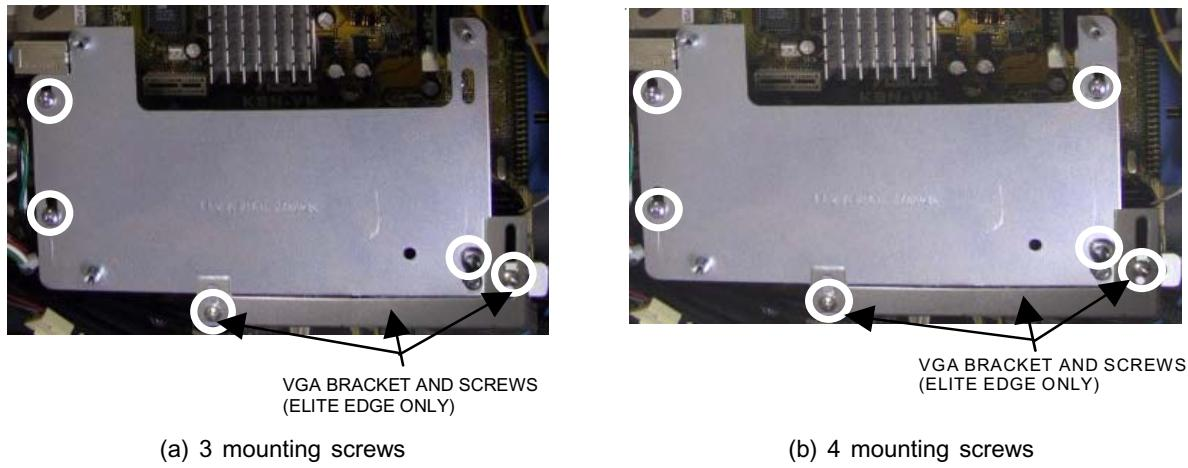

FIGURE 6 -ASUS I/O MOUNTING PLATE
5. Remove the 2 screws securing the VGA cable mounting bracket, then remove the bracket (Elite Edge games only). Remove the 3 or 4 screws securing the I/O mounting plate, then remove the plate. See Figure 6.
3. Secure the I/O board mounting plate with the 4 mounting screws. Secure the VGA bracket to the I/O plate with 2 screws (Elite Edge games only). See Figure 6.